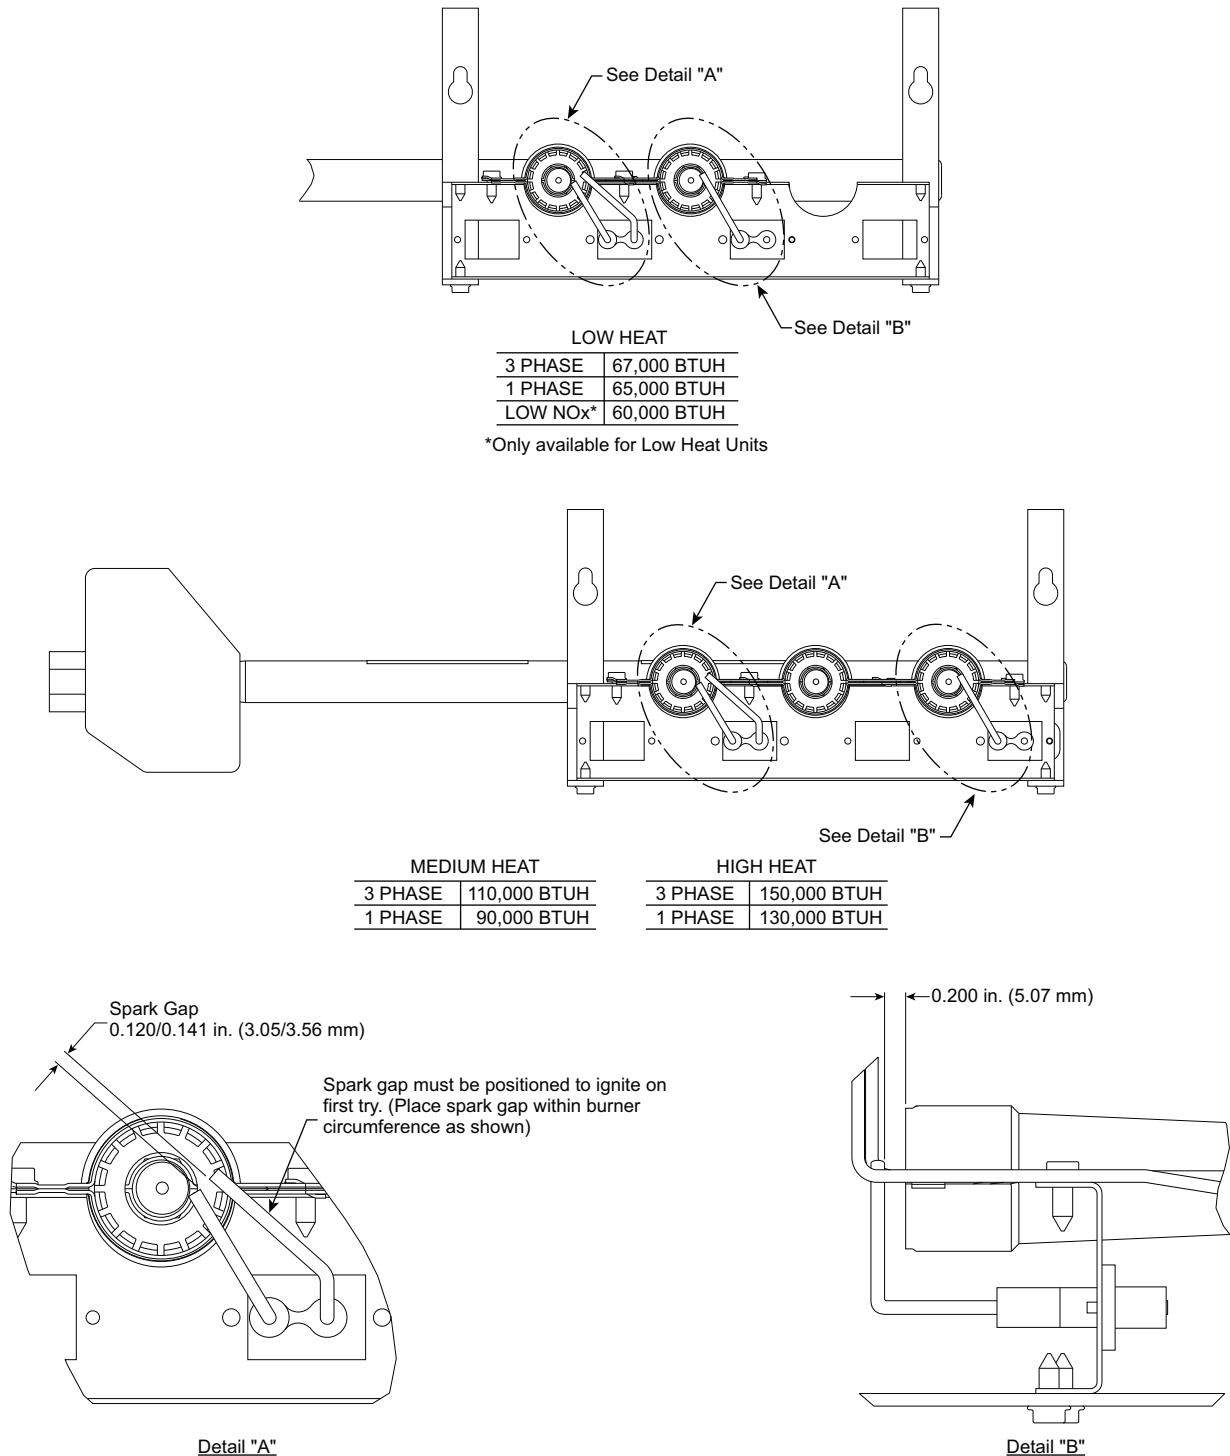

Fig. 56 — Spark Adjustment (Size 04-07)
4. Adjust spark gap. (See Fig. 56.)